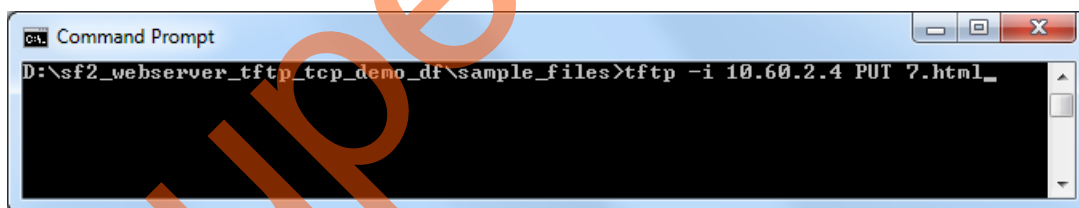

Figure 28 • Command Prompt
8. Type the following tftp command to transfer the file to the tftp server (SmartFusion2 Device) as shown in Figure 28.